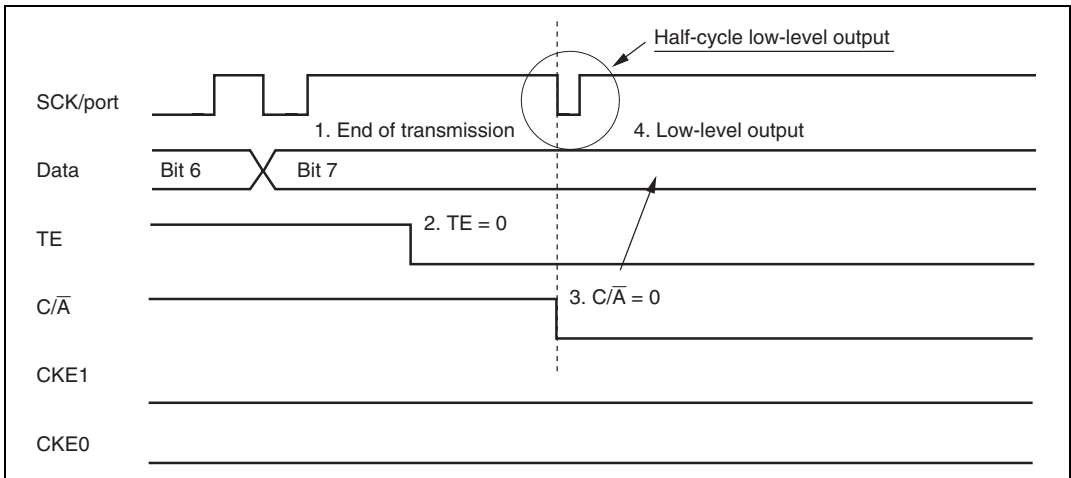

Figure 12.32 Operation when Switching from SCK Pin Function to Port Pin Function
4. Occurrence of low-level output (see figure 12.32)